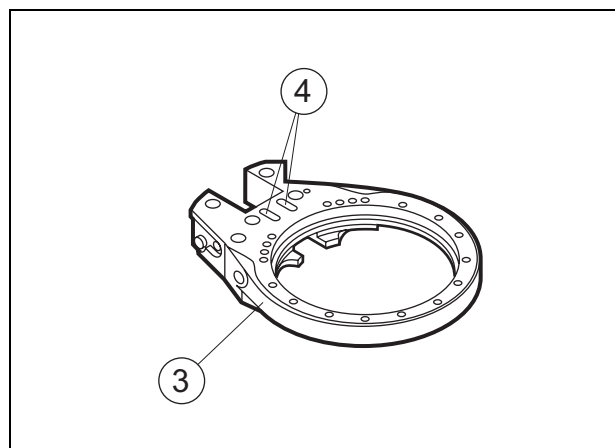

Fig. 42 Tensioning device
5. Inspect and clean the grooves (4). *See Fig. 42.*